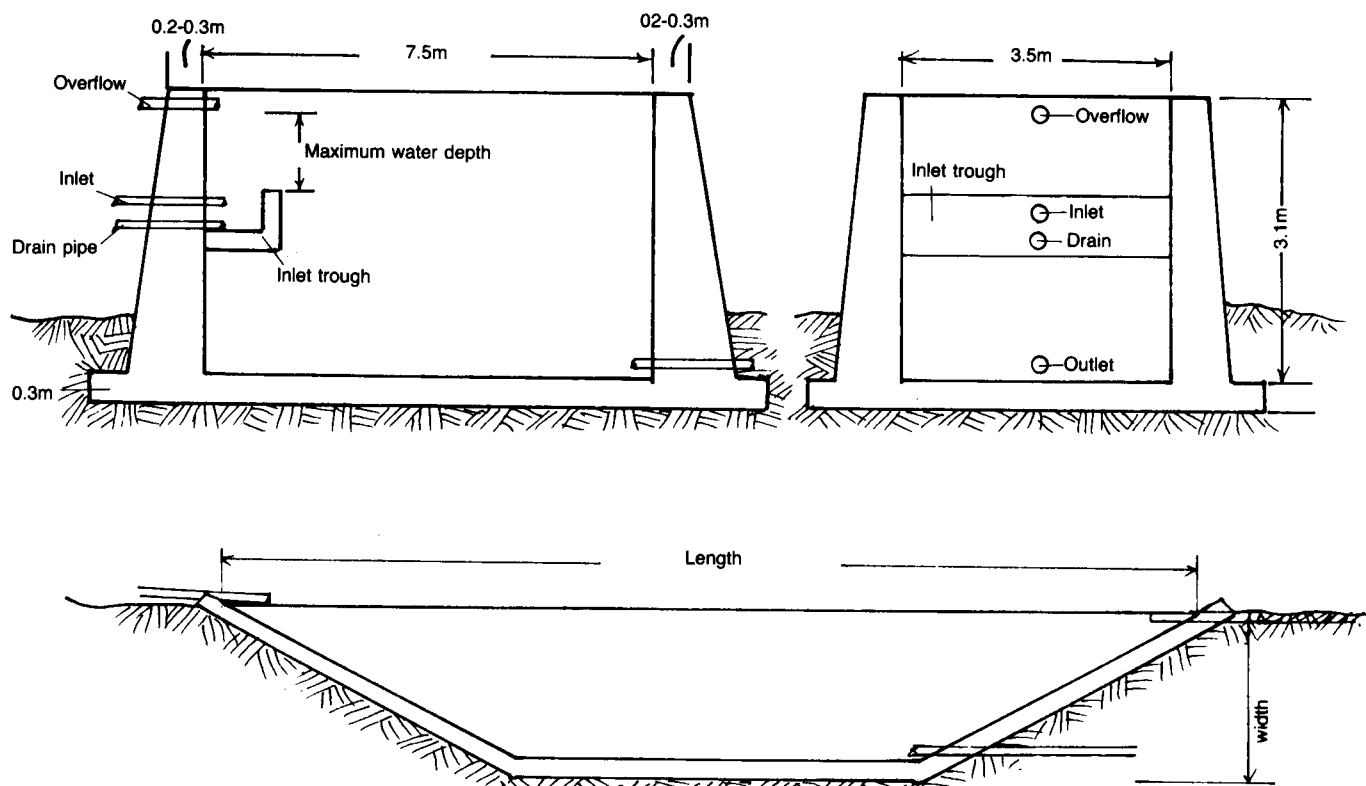

Figure 2. Design of Slow Sand Filter
3. A plan view of the filter with all dimensions. Figure 2 is an example of the type of plan necessary. The dimensions in Figure 2 are average dimensions for a filter with an area of 26m².